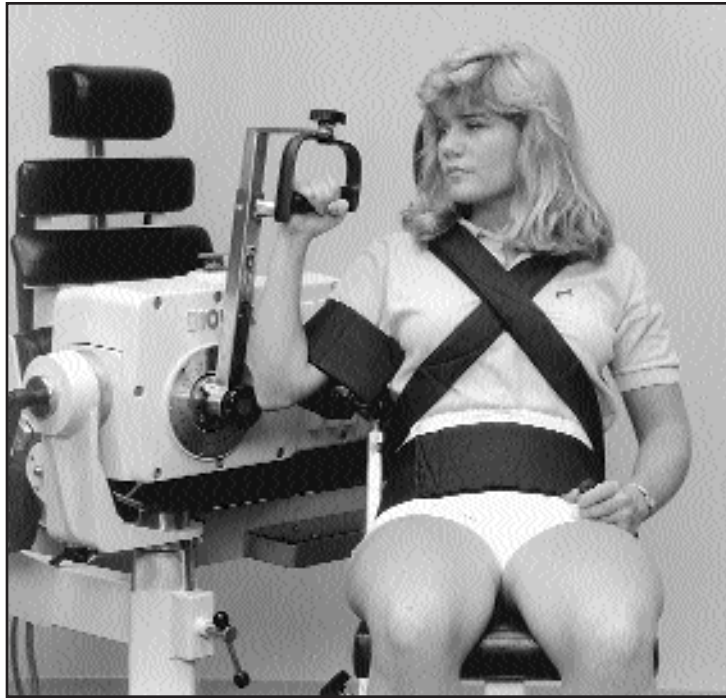

Figure 4.85
3. Install MULTI-SUPPORT PAD on accessory or positioning chair as shown in Figures 4.89 and 4.90 to support the subject's upper arm, proximal to elbow (see Figures 4.85 and 4.86).